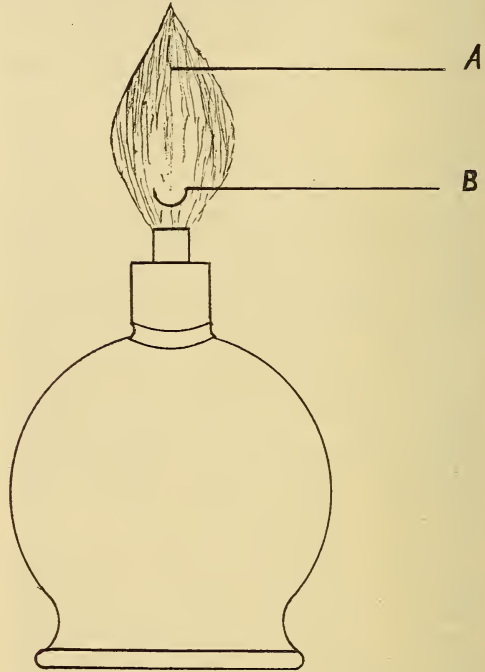

FIG. 2. OPEN FLAME AUDION.
(B) The simplest form of Audion is the open flame type first used by E. Ruhmer in wireless experiments. This type was an alcohol lamp with two contacts of platinum held in the flame, the lower contact being large and the top a small wire. In Fig. 2 is shown the position in which the contacts are placed, the lower one resting in the cool spot of the flame and the top one at the point of the greatest heat. This is the first type of Audion to come in use. A second kind which is several times more sensitive